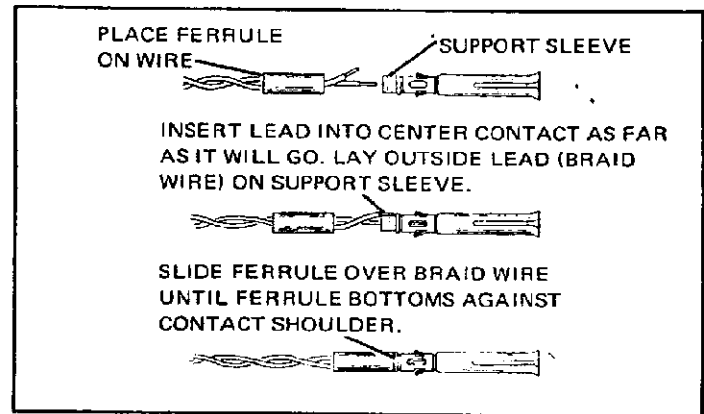

Figure 5
- (d) Lay shortest (outside) lead on support sleeve of shell. See Figure 5.